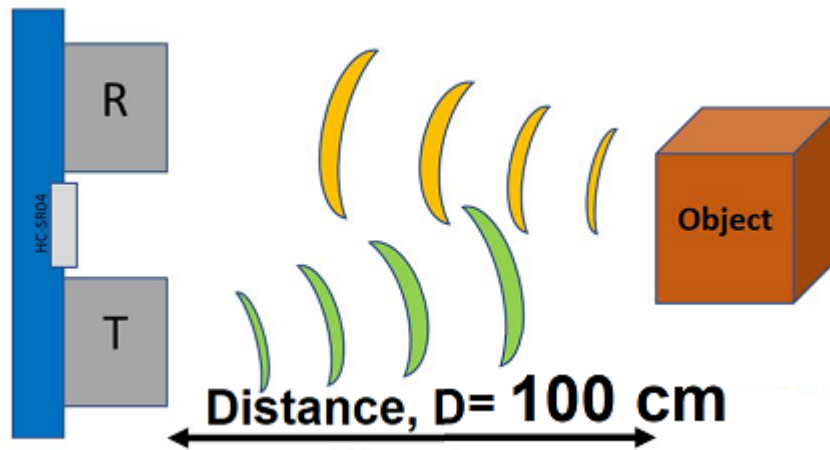

Figure A2c / Rajah A2c
- c) An ADC module inside PIC Microcontroller is used to convert analog signal from MaxSonar Ultrasonic sensor. The specification analog output from sensor is illustrated in Figure A2c. If the ADC module is used with following setting: